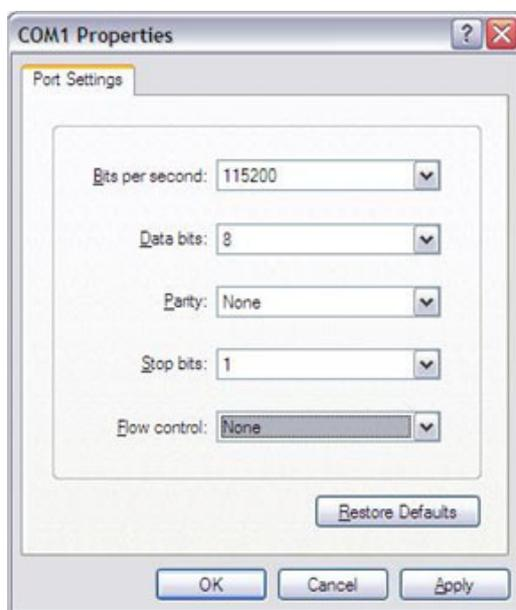

Figure 3.5 HyperTerminal Settings for Serial Console Setup
2. Open HyperTerminal on your Windows PC, and select the settings as shown in Figure 3-5.